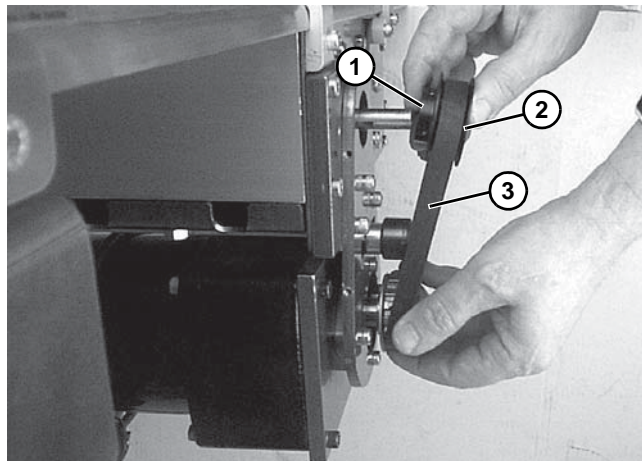

Figure 33
If the timing belt does not slide over the pulley flange, loosen the driven pulley set screws (**Figure 33, item 1**) and remove the pulley (**Figure 33, item 2**) with the belt (**Figure 33, item 3**).